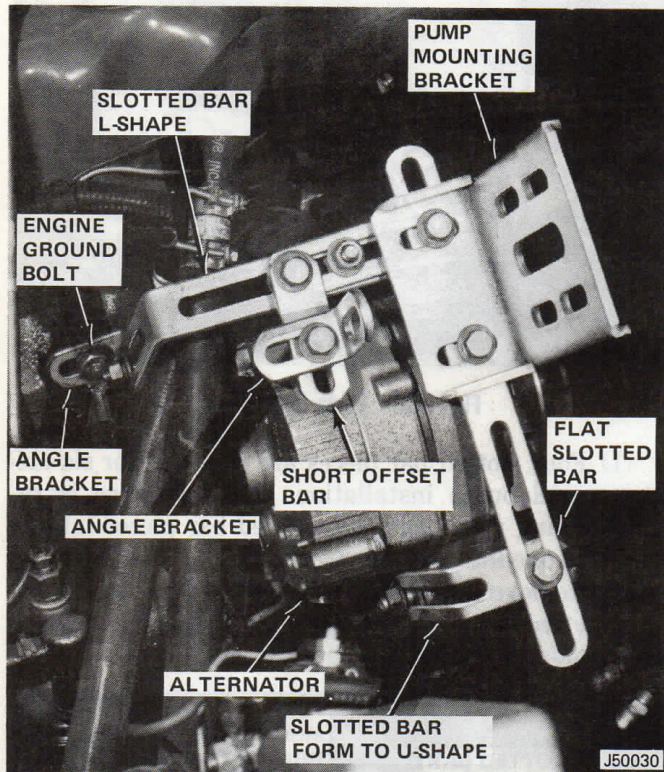

Fig. 1-32 Pump Bracket Installation
(3) Loosely assemble two L-shaped sections and top angle bracket using screws, flat washers, lockwashers, and nuts.
(4) Remove alternator belt tension adjustment bolt and engine ground bolt (fig. 1-32).